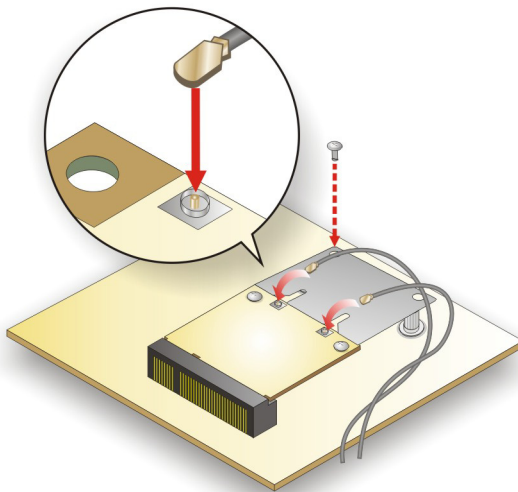

Figure 3-10: Securing WLAN Module and Connecting RF Cables
Step 7: Secure the WLAN module. Secure the WLAN module with the retention screw previously removed (**Figure 3-10**).
Step 8: Connect the two RF cables to the antenna connectors on the WLAN module (**Figure 3-10**).